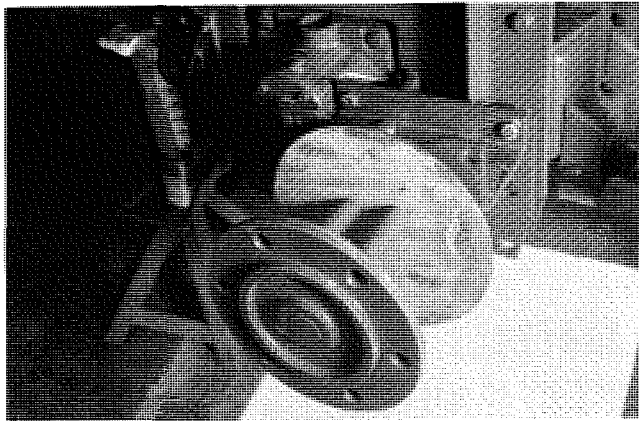

FIGURE 2
Remove each wheel hub. Remove both axle cover tubes and discard. Clean discs with solvent prior to installation. Bolt the discs (35) to each hub (see Fig. 2). Reinstall the hubs, do not tighten.